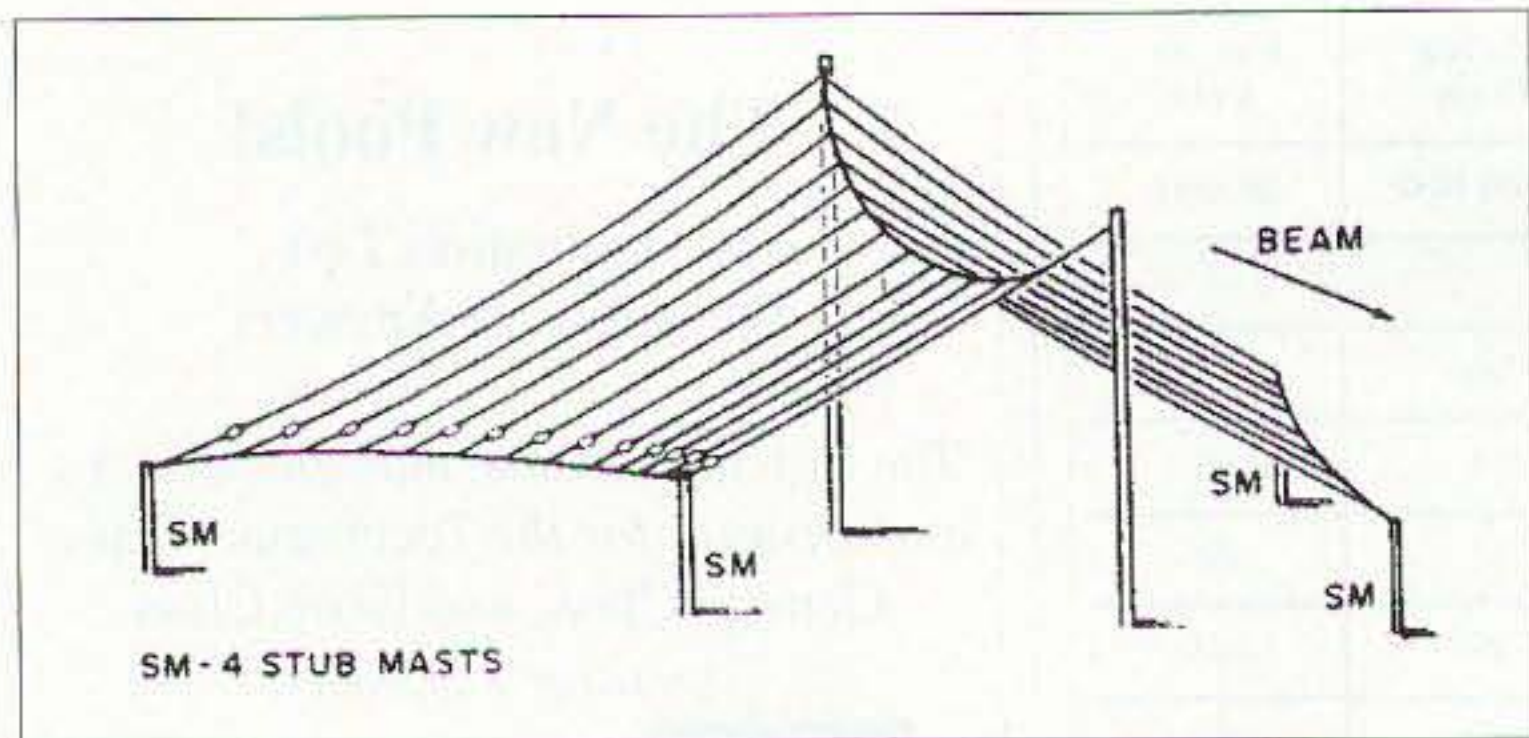

Fig. 5. W4AEO inverted vee log periodic.
**Fig. 5** illustrates two high and four stub masts for an inverted V-log-P which I call my "λ-log-P" configuration.